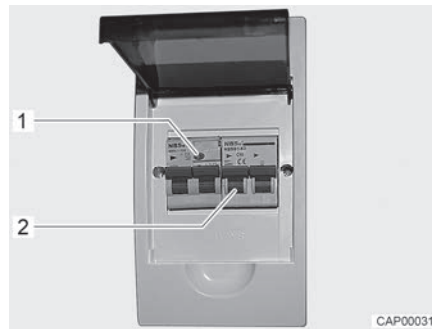

Fig. 92 230 V fuse box with safety cut-out and FI-switch
A fault current protection switch (FI-switch) in the fuse box protects the complete vehicle from fault current (0.03 A). A downstream safety cut-out (10 A) (Fig. 92,2) secures the 230 V power supply.
- When the vehicle is connected to the 230 V power supply, press the test button (Fig. 92,1). The fault current protection switch must trip.